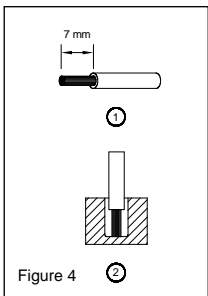

Figure 4
You can use flexible (stranded wire) or solid cables with cross section 0.32-5.3 mm2 (AWG 22-10) and torque of 4.57 Kgf-cm (3.96 lb in). To secure reliable and shock proof connections, the stripping length should be 7 mm (see Fig. 4 (1)). Please ensure that wires are fully inserted into the connecting terminals as shown in Fig. 4 (2).